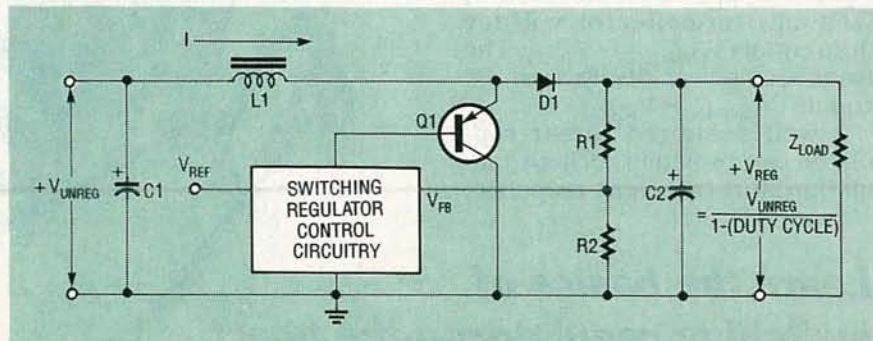
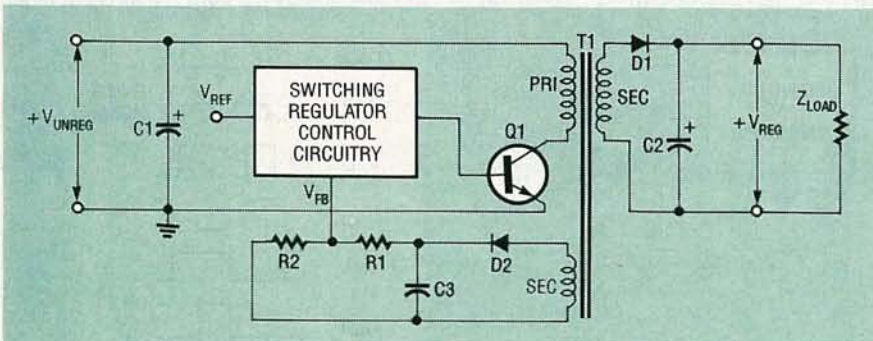

FIG. 4—A FLYBACK, OR "BOOST," converter produces an output voltage higher than its input.
FIG. 7—IN A TRANSFORMER-COUPLED flyback converter a separate winding on the transformer allows output regulation while still maintaining input/output isolation.
FIG. 4—AMPLIFIER (a) AND COMPARATOR (b) output waveforms. The comparator converts the amplifier signal into a clipped, quasi-digital 4-volt p-p signal only when the amplitude of the amplifier's signal exceeds the comparator threshold.
To keep the VCP200's input quiet, unless a signal of sufficient strength is present, and to ensure a sharply clipped signal, the output of the amplifier is passed to a comparator, IC1-c. (The fourth op-amp on the LM324A, IC1-d is not used, and its pins are left unconnected.) The comparator's output remains steady unless the input signal swings past its threshold. Input signals of less than 2.5 volts peak-to-peak will be ignored. However, all signals stronger than that will cause the comparator's output to swing from limit to limit, or about 4 volts peak-to-peak, which is within one-half volt of each supply rail. A comparison of the amplifier and comparator output signals is shown in Fig. 4.
**FIG. 7—BASIC POWER DRIVER CIRCUIT** for interfacing the project to motors, lamps, or other high-current devices. The relay must have a 5-volt coil, but can have any arrangement of contacts suitable for the application.
Figure 4 shows a flyback, or "boost" converter. It operates much like a TV flyback, but with feedback added to control the output voltage. When Q1 is on, an inductive current builds up in L1. When Q1 turns off, the inductive current flows through diode D1, into C2 and the load. Since L1 is supplying current, its output side is positive and its voltage adds to, or "boosts"  $V_{UNREG}$ . The output voltage is, therefore, greater than the input voltage.
Figure 7 shows a simple transformer-coupled flyback converter. The control circuit is the same as in Fig. 4, but the inductor has been replaced with a flyback transformer. The on-time primary current builds up flux, which collapses when Q1 turns off. The collapsing field induces voltages in both secondaries, one of which produces the output while the other provides an isolated feedback voltage. Although this is a simple circuit, it still produces a net DC current in the transformer. The output voltage,  $V_{REG}$ , can be expressed as  $V_{UNREG} \times N \times [(Duty\ cycle)/1 - (Duty\ Cycle)]$  where N equals the transformer turns ratio.
The flyback converter (Fig. 7) retains the advantages (cost and simplicity) and drawbacks (high peak currents, high ripple, and DC coil current) of a transformer-coupled circuit. It's the best choice when a simple, low-cost circuit is needed to regulate up to tens of watts. Peak switch current,  $I_{PK}$ , of a flyback converter is